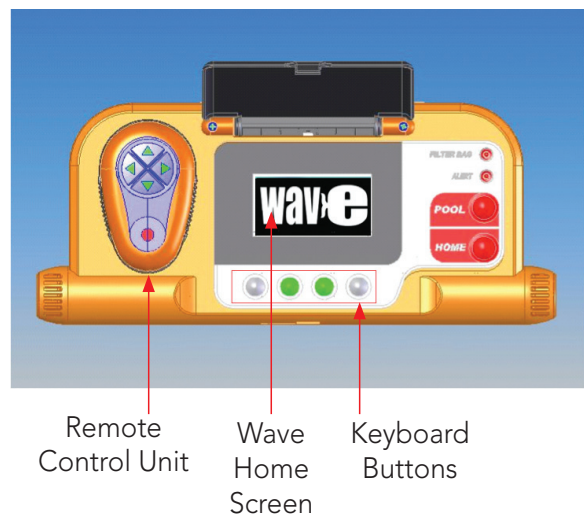

Figure 2: The Dolphin Wave robot MMI console
- In this user manual, the instruction press **“Start”** is performed by pressing both green buttons -  - simultaneously on the MMI console (Figure 2).